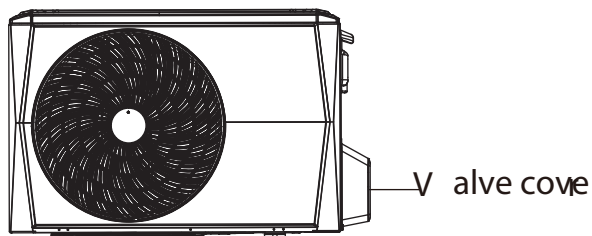

Fig. 5.9
1. Unscrew the cover from the packed valve on the side of the outdoor unit. (See Fig. 5.9 )